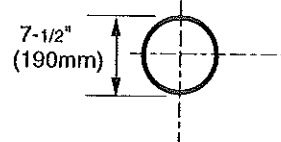

Fig. 29
Locate vent opening on the wall. It may be necessary to first position the fireplace and measure to obtain hole location. Depending on whether the wall is combustible or non-combustible, cut opening to size (Fig. 29). (For combustible walls first frame in opening (Fig. 29).
COMBUSTIBLE WALLS: Cut a 9-3/8"H x 9-3/8" W (240 mm x 240 mm) hole through the exterior wall and frame as shown (Fig.29).
1. Establish vent hole through the wall (Fig. 29).